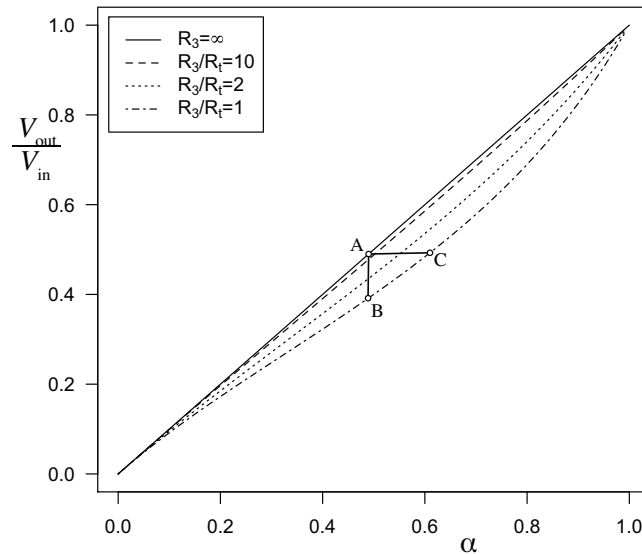

Figure 6: Influence of non-zero load resistor, R_3 , on the output of the potentiometer circuit.
Figure 6 is a plot of Equation (17), with α on the horizontal axis and R_3/R_t as the parameter. The solid line corresponds to $R_3 = \infty$, i.e., the simple potentiometer model where the load resistance is so large that it is not important. For a given α , points A and B shows the range of $V_{\text{out}}/V_{\text{in}}$ when R_3 varies from ∞ to R_t . For a given, desired $V_{\text{out}}/V_{\text{in}}$, the points A and C show that α needs to change (the wiper needs to be moved) when R_3 is not large enough to be neglected.
The analysis in this section shows that the load resistance is not a big obstacle to using a potentiometer. The computations summarized in Table 1 demonstrate that with $R_3/R_t > 100$, the effect of the load resistance on the output voltag is negligible. Figure 6 shows that even when $R_3/R_t = 1$, the effect of the output resistor can be compensated by making a modest adjustment to the potentiometer. We conclude that the simpler potentiometer formula, Equation (5), can be used for most engineering design calculations.